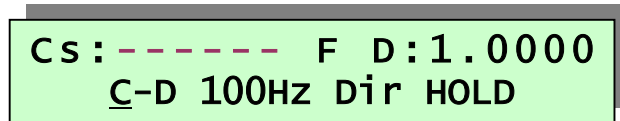

Figure 3-3 Overload
- 4□ When measurement range is set to HOLD, if the impedance under test exceeds the effective measuring range of the locked measurement range, overload symbols will be displayed as shown in Figure 3-3: